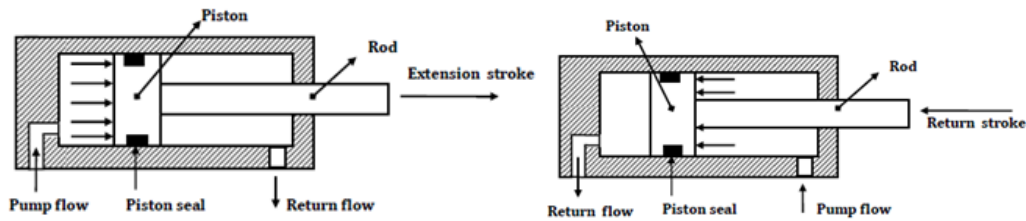

Fig.3.14 (a),(b) - Double-acting cylinder with a piston rod on one side
- ▶ Figure 3.14 shows the operation of a double-acting cylinder with a piston rod on one side. To extend the cylinder, the pump flow is sent to the blank-end port as in Fig. 3.14 (a). The fluid from the rod-end port returns to the reservoir.
- ▶ To retract the cylinder, the pump flow is sent to the rod-end port and the fluid from the blank-end port returns to the tank as in Fig. 3.14 (b).